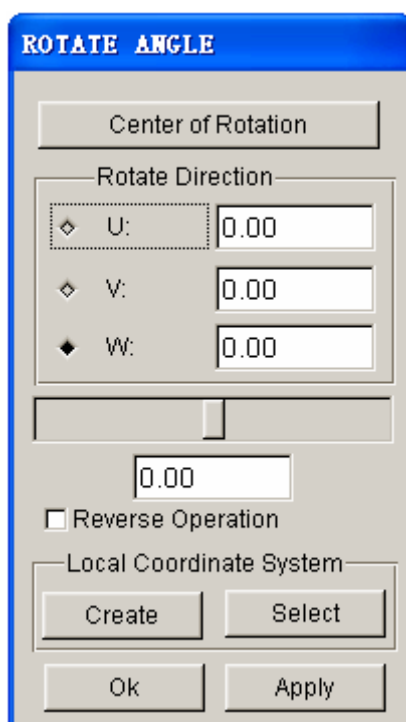

Figure 6.2.13 Rotate Binder dialog box
1. Click on the ROTATE BINDER button to display a dialog box as illustrated in Figure 6.2.13. By default, the center of binder is set as the center of rotation with U, V, W axes parallel to X, Y, Z axes of global coordinate system, respectively. The user can define the center of rotation by click on the CENTER OF ROTATION button, following by picking a location using mouse cursor.